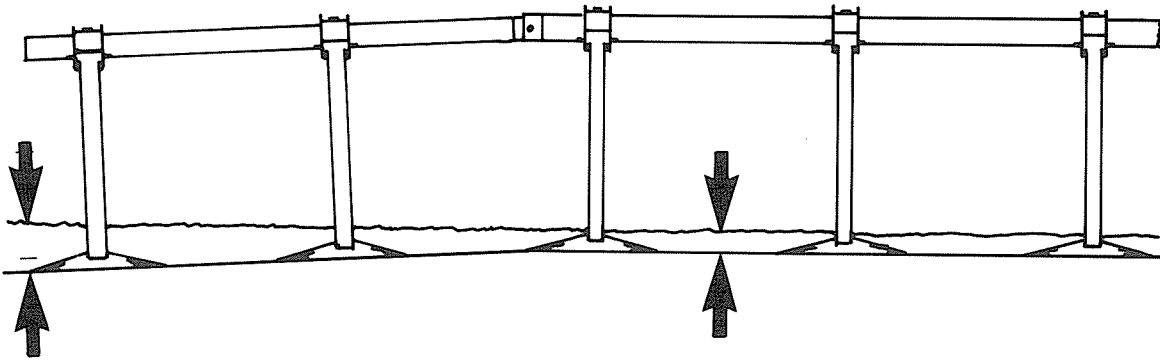

Figure 5
- (b) **Level the cultivator side to side.** (Fig. 5)